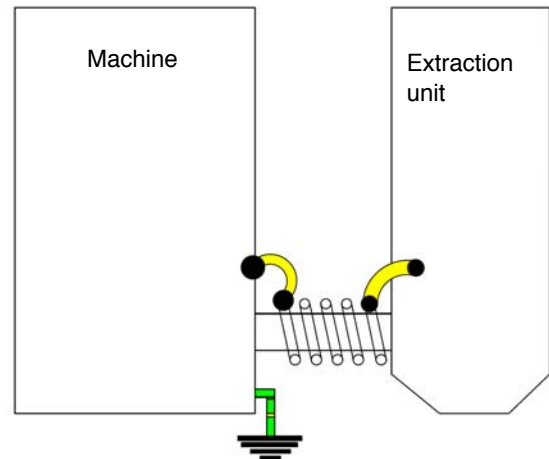

Fig. 12: Connection machine and exhaust system
The extraction system has a standard chassis. To transport the extraction system, slightly lift the transport handle (4) (Fig. 12) and move it to the desired location.